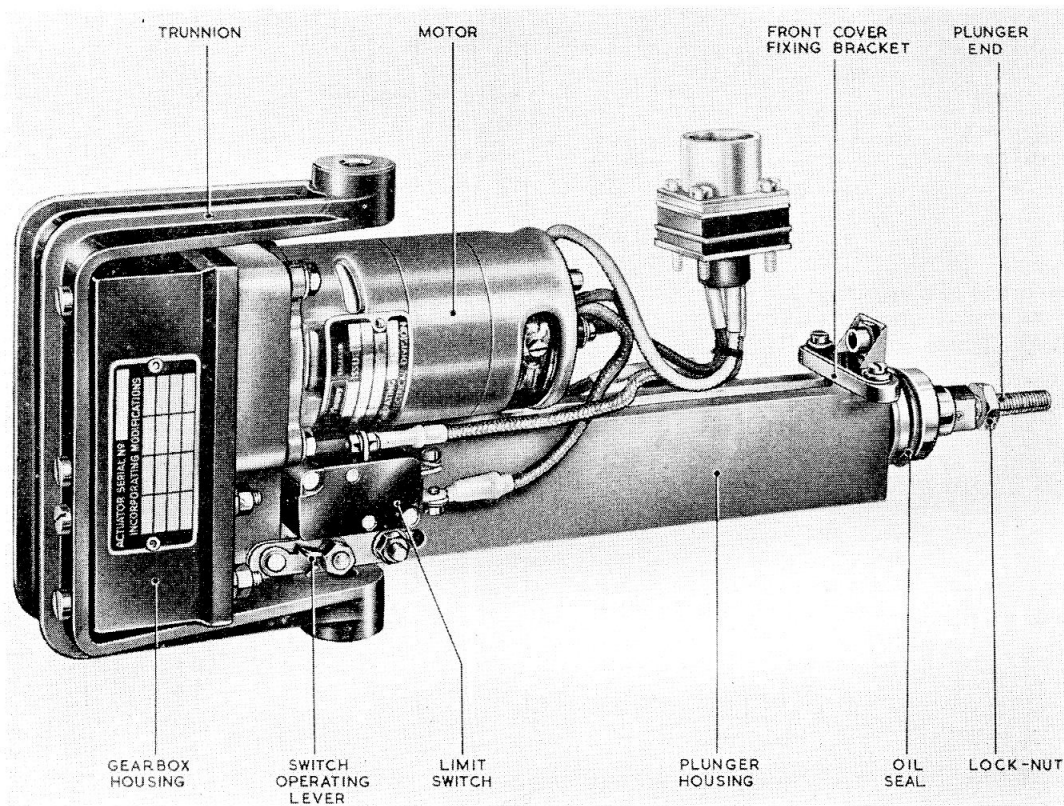

Fig. 2. View of actuator with cover removed
2. A view of the actuator with the covers removed is shown in fig. 2. The special features of this type are described in paragraphs 3 to 7.